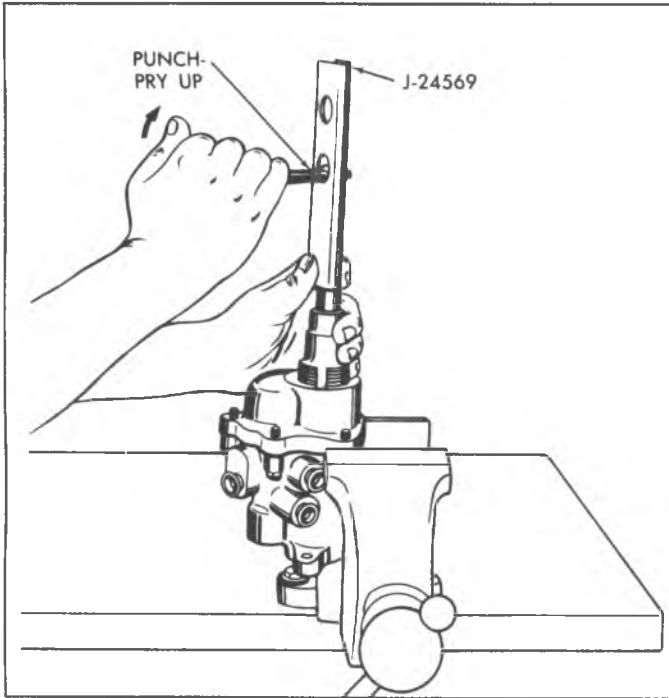

Fig. 3E--Removing Booster Pedal Rod
3. Place Tool J-24569 around the pedal rod and resting on the input rod end as shown in Figure 3E.